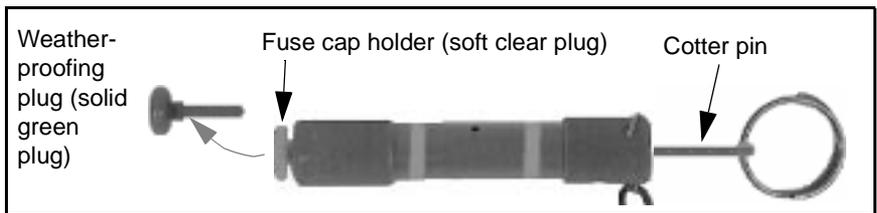

Figure 3. M81 Igniter
Step 18. Pull (do not twist) and remove the plastic weatherproofing plug (solid green plug) from the fuse cap holder. Do not remove the fuse cap holder (*Figure 3*). Place the plug in the barrier bag for possible reuse.